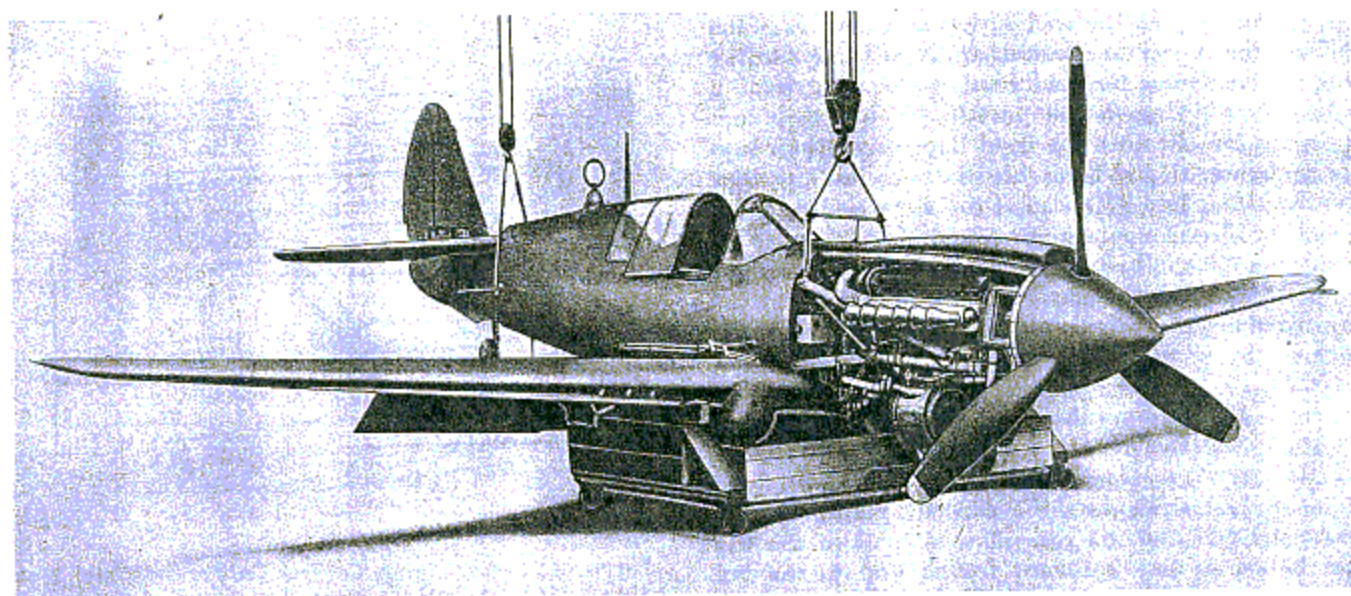
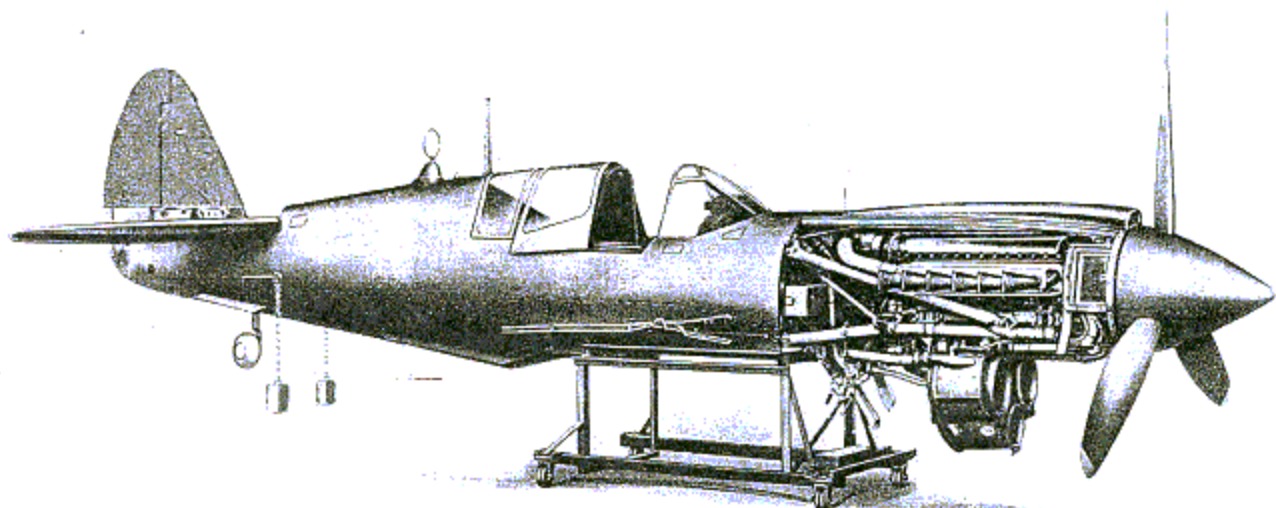

Figure 66—Airplane on Wing Cradle
Figure 67—Fuselage on Dolly
28. At this stage of disassembly, hoist the airplane off the wing supports and remove to the cradle as shown in figure 66. Support the aft end of the airplane by the hoist until the wing is separated from the fuselage and the fuselage is transferred to a dolly as shown in figure 67.
38. Raise the aft end of the fuselage until it clears the trailing edge of the wing by approximately six inches. Then raise the front end of the fuselage approximately three inches. Be sure that all lines and connections are free, then raise the complete fuselage, front and rear, and move it forward at the same time to clear the lines at the leading edge of the wing. Transfer the fuselage assembly to a dolly as shown in figure 67.